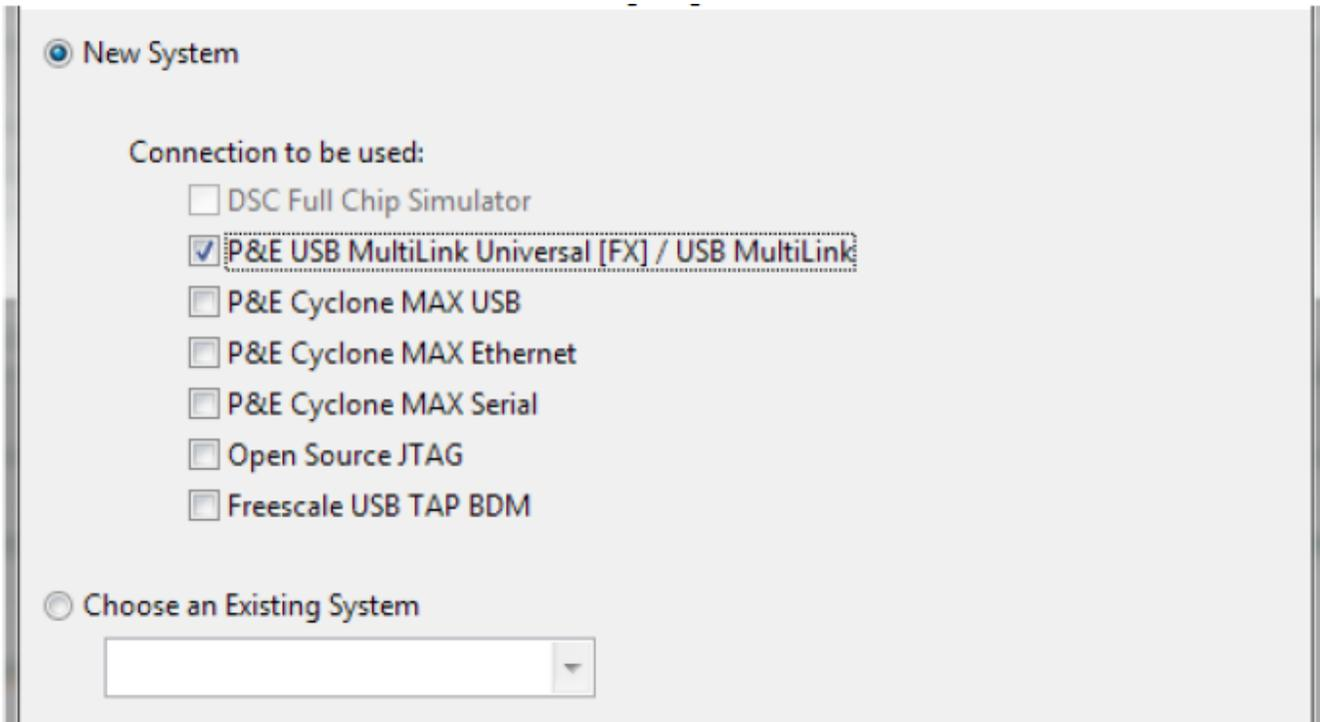

Figure 3. Connection selection
6. Now, select the option of the connection to be used to download and debug the application. For this case, select the option P&E USB MultiLink Universal[FX] / USB MultiLink and click Next. See Figure 3.